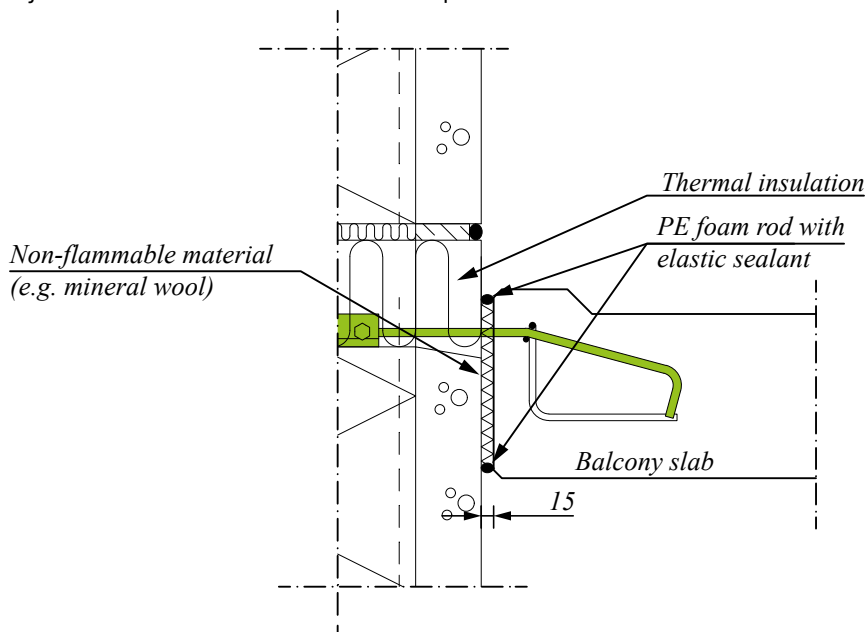

Figure 14. Joint filling.
8. Fill the recesses in the outer panel and insulation layer according to the plan with thermal insulation (see Figure 14).
9. Gap between balcony slab and wall element should be secured after installation by non-flammable material (e.g. mineral wool), PE foam rod with elastic sealant (see Figure 14).